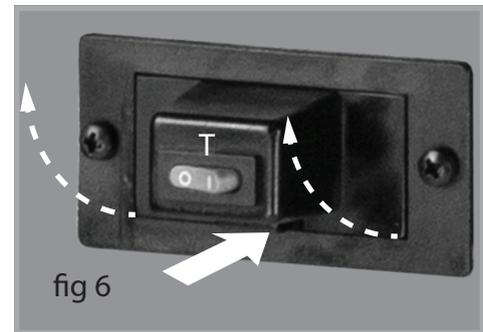

fig 6
2. Press the tab located below the laser switch (fig 6) and raise the cover.